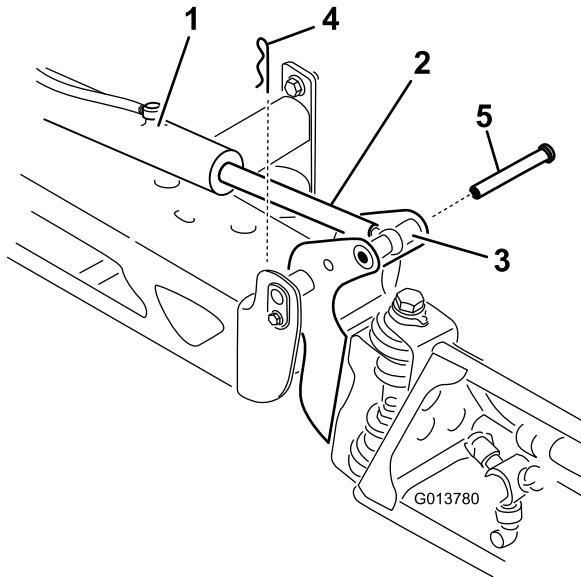

Figure 113
2. Remove the cotter pin from the pivot pin (Figure 113).
3. Lift up on the boom and remove the pin (Figure 113), and slowly lower the boom to the ground.
9. While holding the boom, insert the pin through both boom pivot and rod end (Figure 113).